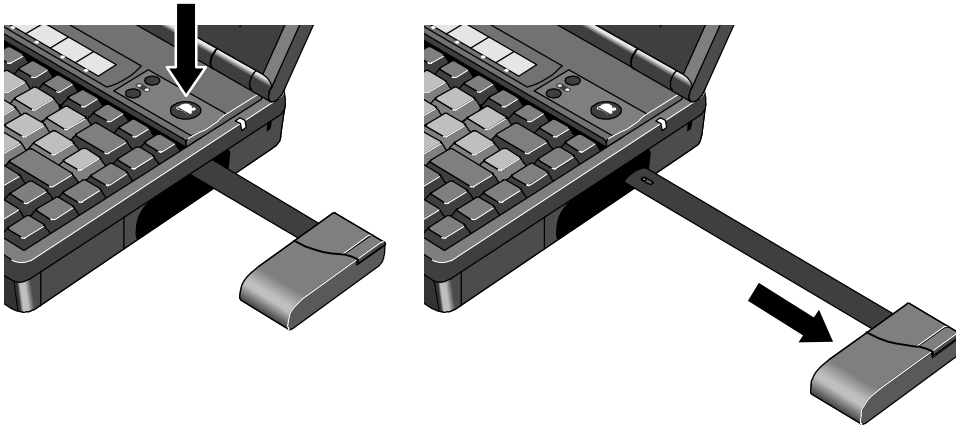

Figure 27 - Removing the Mouse
2. Pull the mouse firmly away from the OmniBook (see Figure 27). The entire mouse assembly will pull free.